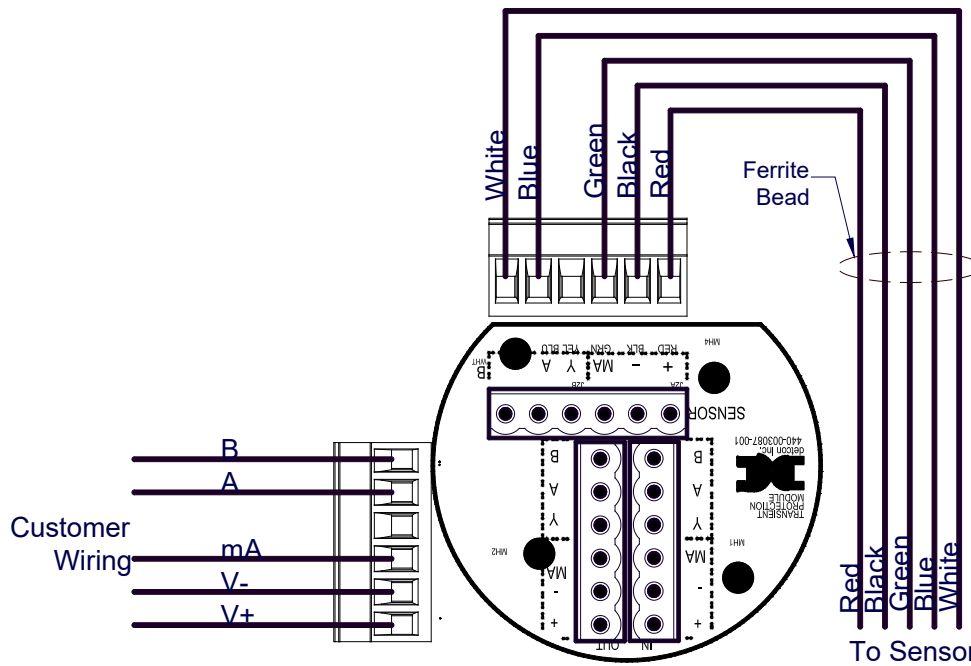

Figure 10 Terminal Interconnect
- Observing correct polarity, terminate the 3-conductor 4-20mA field wiring (+, -, mA) to the sensor assembly wiring in accordance with the detail shown in **Figure 10**.